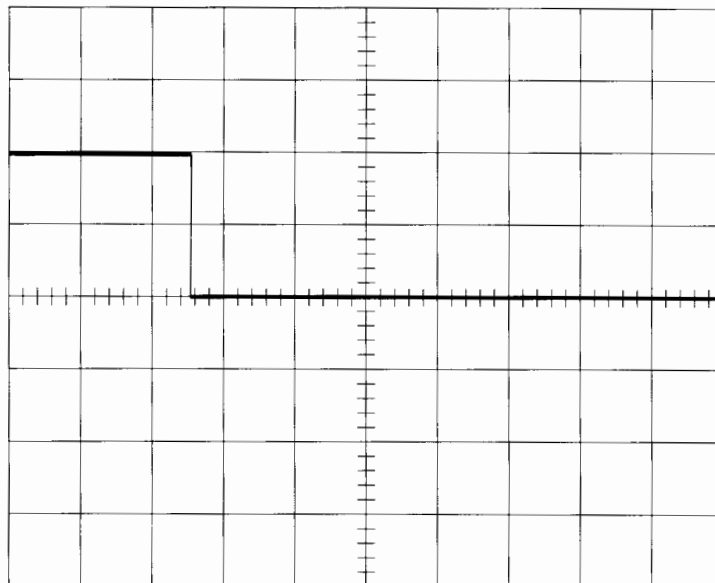

Figure 3-14. Index Pulse Waveform
3. Adjust the index potentiometer on the index phototransistor to obtain a 1.7 msec pulse $\pm .5$ msec (see Figure 3-14).